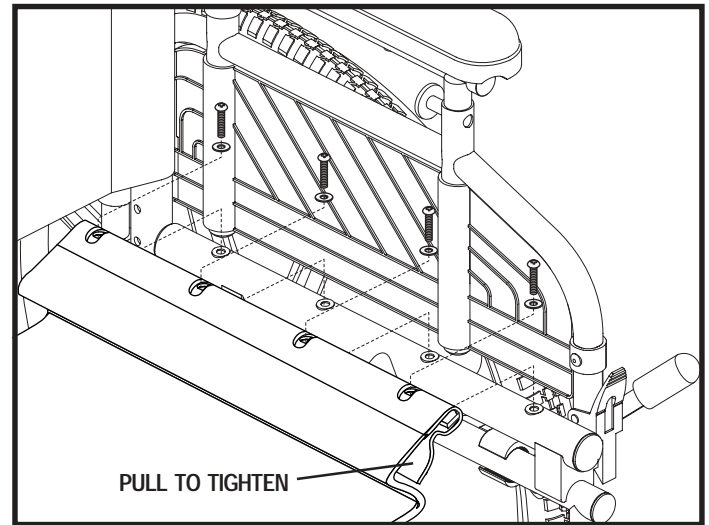

Figure 28. Seat Tension Adjustment
1. Loosen the screws that attach the seat to the side rail on the left side (side with hook and loop fastener). See figure 28.